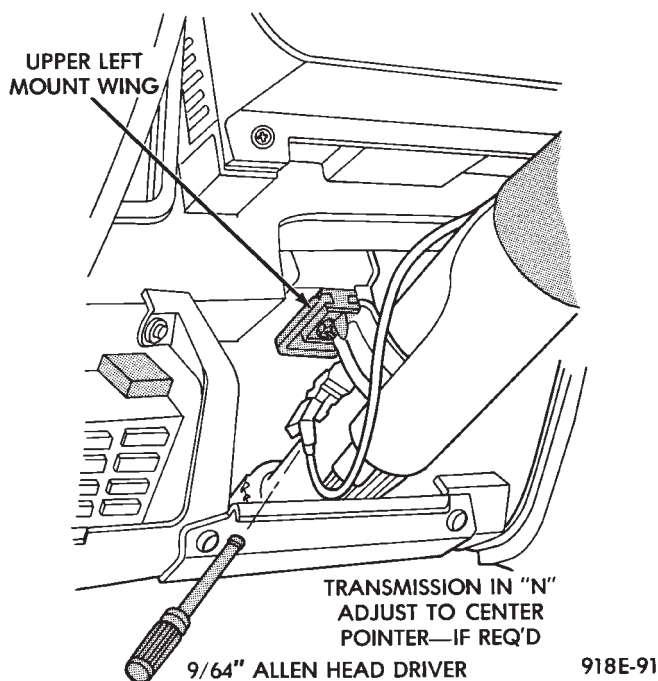

Fig. 12 Adjusting Transmission Range Indicator
- (7) Remove cluster.
- (8) For installation reverse above procedures.
- Move shift lever to Neutral (N) and note pointer location. Move shift lever to D, L and P note pointer location. Adjust, if necessary to center pointer on N. Refer to Fig. 12 for adjusting procedure.
(8) Disconnect odometer connector and remove screw attaching printed circuit board and housing.
(9) For installation reverse above procedures.